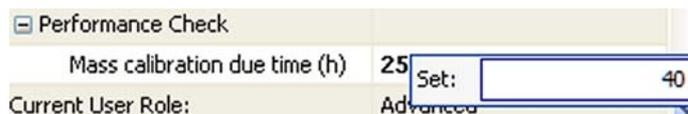

Figure 5-13. Changing the calibration validity period
4. In the Set text field, enter the new validity period (40, for example). See Figure 5-13. You can enter a value between 1 and 500 hours.